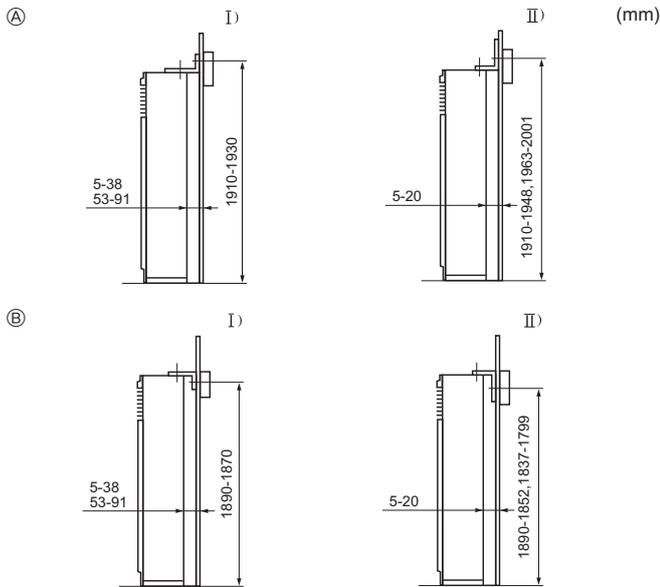

Fig. 3-3
- ① Tip-over prevention bracket
The tip-over prevention bracket ① is set on the top surface of the unit. Remove the tapping screws ②, and then reinstall the bracket, as shown in the illustration. For the proper installation distances, see Fig. 3-3.
- Ⓝ Remove the screw ⑩ and then pull the grill forward to remove it.
3.3. Mounting the tip-over prevention bracket (Fig. 3-3)